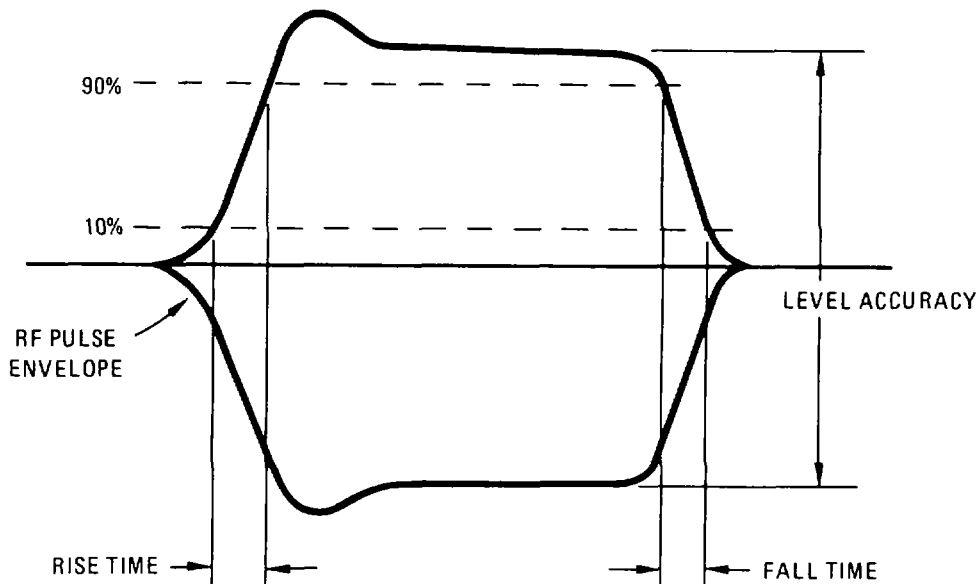

Figure 4-23. Pulse Measurements
3. Adjust oscilloscope to display the RF pulse envelope. Readjust the pulse width for 10 us (measured at 50% amplitude points) and measure the rise and fall times (see Figure 4-23). Both should be less than 9 Ps (measured between 10% and 90% of the full pulse amplitude).